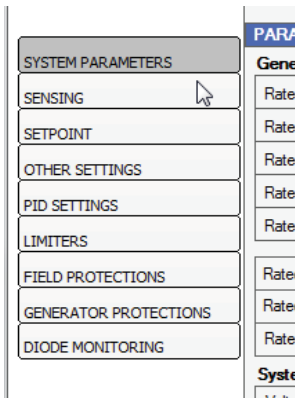

Fig. 5.5.a
- Select the desired group of data (see Fig. 5.5.a).
- Click in the field to modify and enter the desired value. Repeat the operation for each parameter to be configured (see Fig. 5.5.b).
- As soon as all parameters into the group are set, click the *Apply Current Page* button, located under the configuration area (see Fig. 5.5.c).